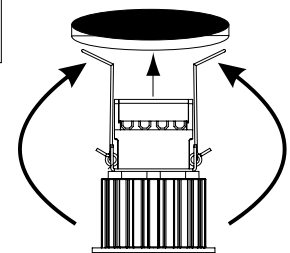

Figure 2
- Lift the two mounting springs toward the terminal blocks and insert the fixture into the ceiling cutout (Figure 2).